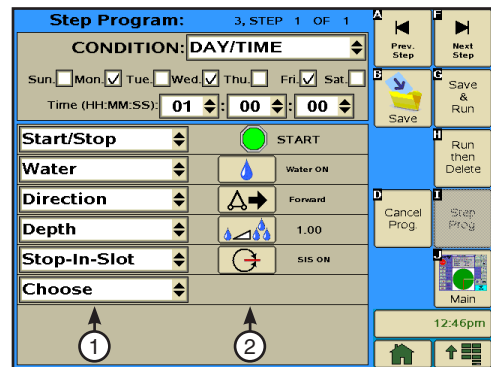

Figure 116-3 1. Command Fields
6. Select the **Command** field and choose a command. Refer to Figure 116-3.